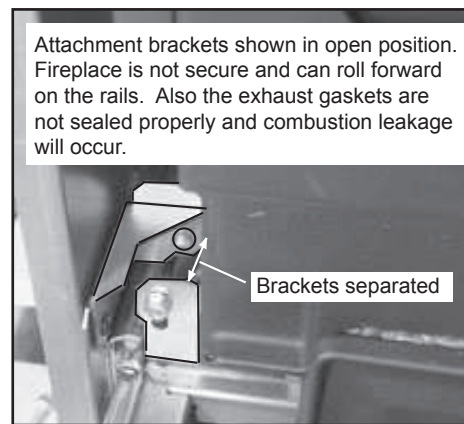

Figure 15.4
6. Slide the fireplace back into the outer can. Re-attach the bolts ensuring that the attachment brackets are securely fastened. This will prevent the fireplace from unexpectedly sliding out on the rail system. **Figures 15.4 and 15.5.**